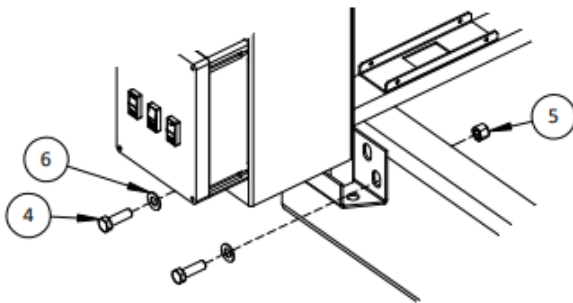

FIGURE 1.3: MOUNTING THE GANTRY
Using supplied 5/8" x 2" grade 8 bolts (4), nuts (5) and washers (6), bolt the gantry frame to the chassis. See *Figure 1.3*.